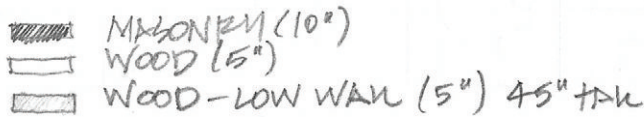

Figure 17.13 A wall key saves room on the drawings by eliminating dimensions.
- ☑ Note the inside wall-to-wall dimensions instead of trying to draw wall thicknesses at a small scale. If there are several different wall types/thicknesses, use a highlighter to call out the wall thicknesses from a wall type key. Alternatively, you can make a general note—for example, “all walls are 5” unless otherwise noted”—rather than dimensioning every wall’s thickness (Figure 17.13).